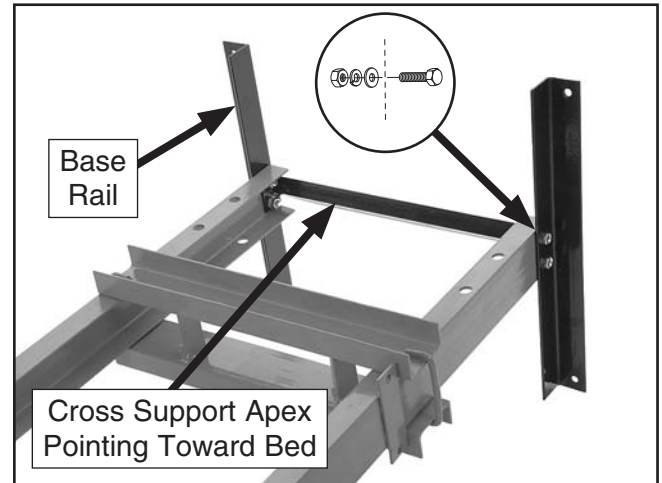

Figure 8. Base cross support installation.
4. Using a 17mm wrench, attach the base rails and cross support to the U-beams with four M12-1.75 x 30 hex bolts and four 12mm flat washers, lock washers, and hex nuts, as shown in **Figure 8**.
Note: Make sure to position the apex of the base cross support towards the bed as shown in **Figure 8**.